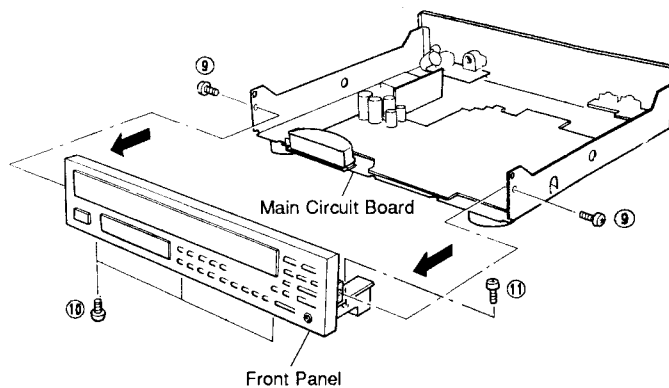

Fig. 8
- a. Remove 5 screws , (⑨ , ⑩) and also 1 screw (⑪) as shown in Fig. 8.
- b. Take off the Front Panel Unit slowly as shown in Fig. 8.